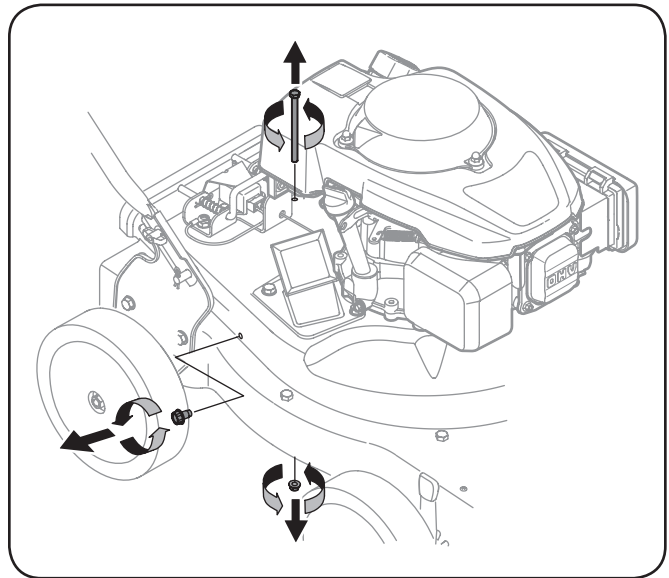

Figure 6-3
5. Remove self tapping screw on right side of unit that attaches to the flail screen. It may be necessary to remove the hose bracket hanger to get access to the screw. See Figure 6-3.
6. Remove hex screw on top of rear housing near mounting bracket and the flange lock nut that secures flail screen. See Figure 6-3.